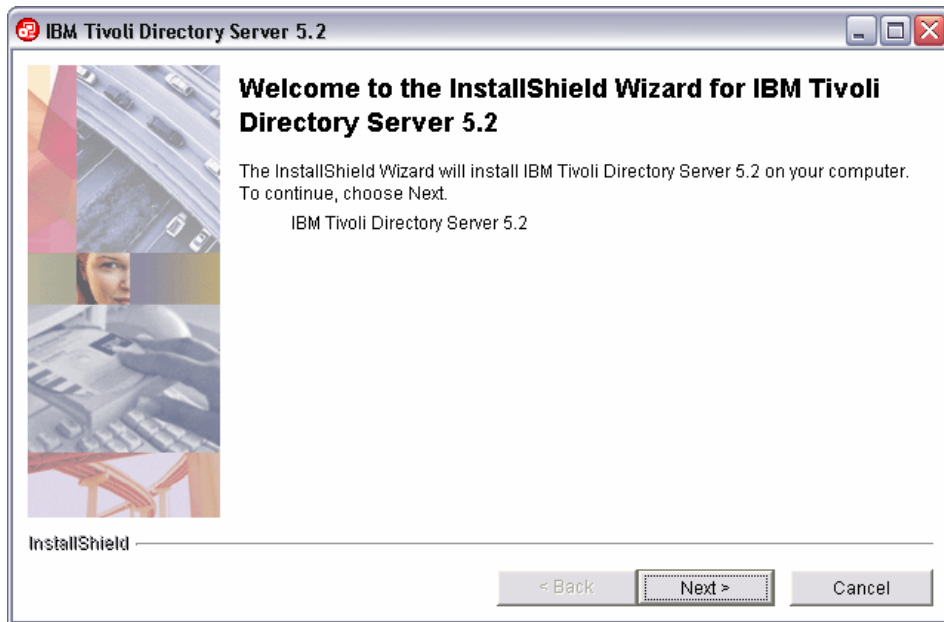

Figure A-38 Tivoli Directory Server: Launchpad
- ▶ Start the Installation Launchpad using the `\i smp\setup.exe` (Figure A-38).